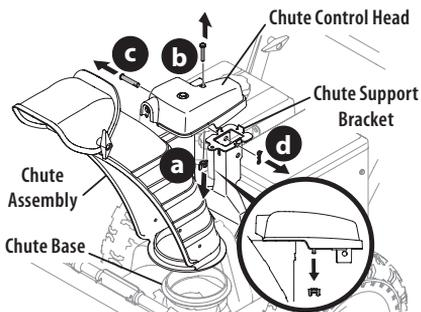

Figure 13
1. Remove wing nut (or locknut if equipped) (a) and hex screw (b) from chute control head and clevis pin (c) and cotter pin (d) from chute support bracket. Position chute assembly (forward-facing) over chute base and chute support bracket (Figure 13).